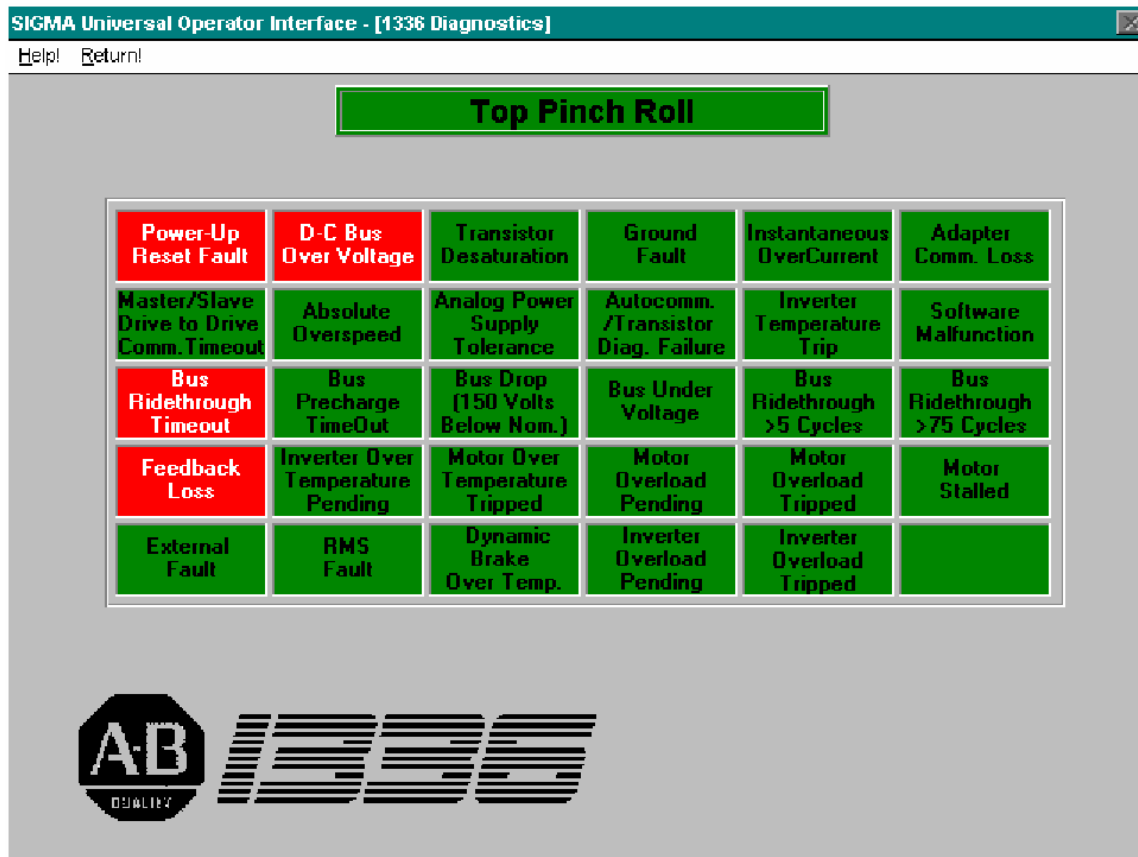

Figure 6-15 The AB1336 Diagnostics Screen
The AB1336 Diagnostics screen, shown in Figure 6-15, displays diagnostic information for an AB1336 drive. This diagnostics screen information consists of a diagnostic grid showing the following status of Power/Diagnostic Fault, Non-Configurable Faults and Current Processor (CP) and Velocity Processor (VP) Configuration Warnings and Faults.